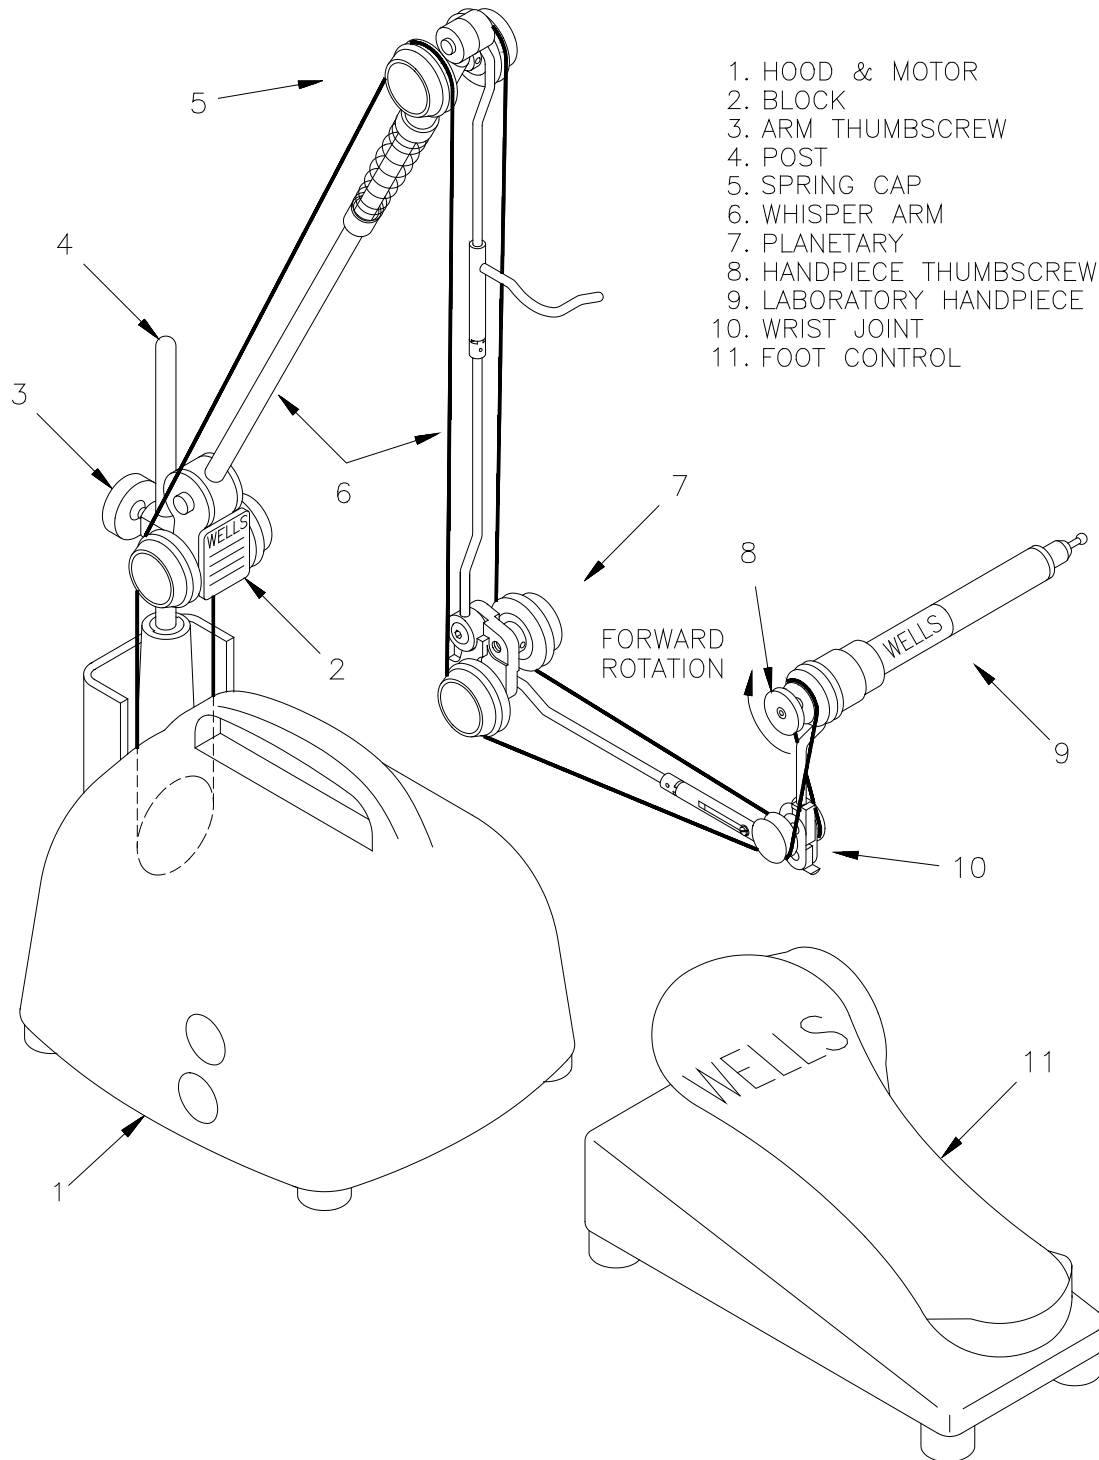

Figure 1. Engine Unit features
- 4.1.6 To install the belt, first loop the belt around the motor pulley. Bring both sides of the belt over the block pulleys. See Figure 1. Continue both sides over the spring cap pulleys. Continue under the planetary pulleys. Now, with the Handpiece pointing down, loop the belt around the small handpiece pulley. Next, put one side of the belt under a wrist joint pulley. Finally, stretch the belt under the other wrist joint pulley. The belt may look too short but go ahead and stretch it.
- 4.2.4 If the rotation of the handpiece thumbscrew is forward (clockwise), the rotation is correct. See Figure 1. Continue with step 4.3, BELT BREAK-IN.